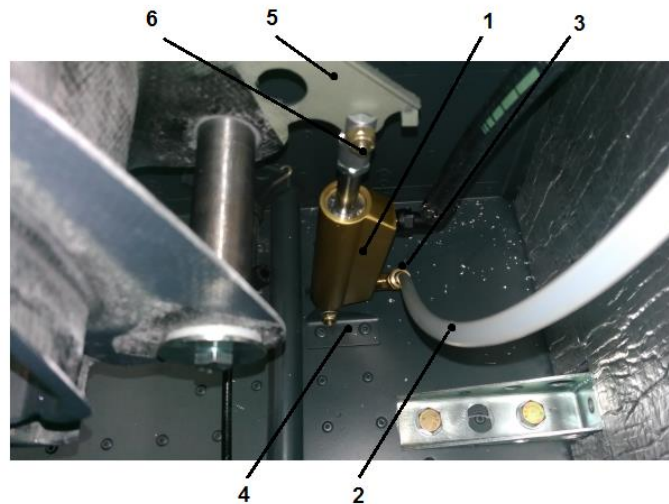

Fig. 8-7
Follow Fig. 8-7 at removal.
Follow Fig. 8-7 at installation.
- Install the brake pump (1) according to Fig. 8-7 to the Bracket (4) on the cockpit floor and assemble the fitting (3) to connect brake hose.
- Connect rod end of the brake pump (1) to the Rudder pedal bracket (5) using the bolt (6), secure with a nut.
- Re-connect brake hose (2) to the brake pump (1) and to the brake cylinder on main landing gear.